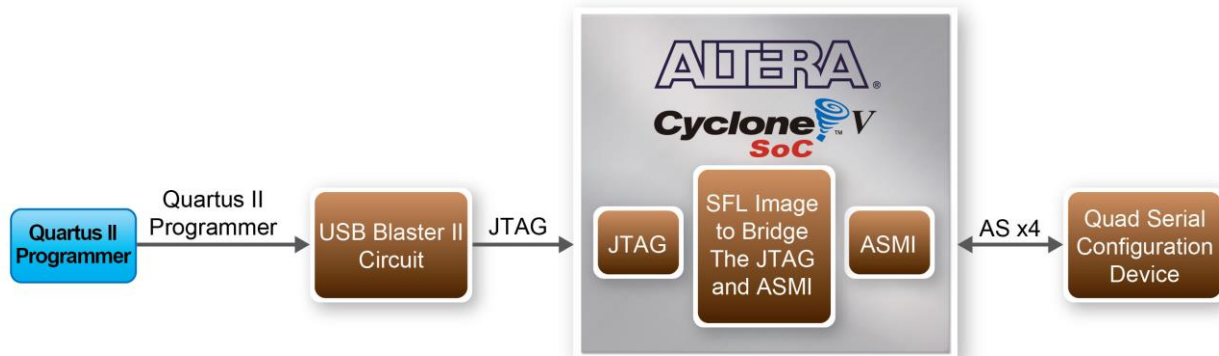

Figure 3-9 Programming a quad serial configuration device with SFL solution
- Users need to use Serial Flash Loader (SFL) to program the quad serial configuration device via JTAG interface. The FPGA-based SFL is a soft intellectual property (IP) core within the FPGA that bridge the JTAG and Flash interfaces. The SFL Megafunction is available in Quartus II. **Figure 3-9** shows the programming method when adopting SFL solution.